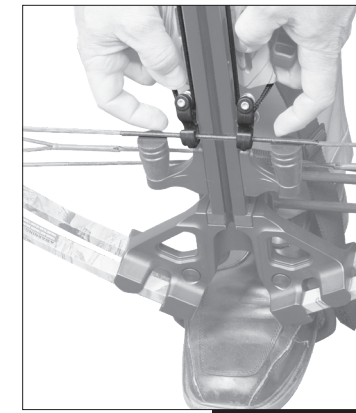

FIGURE 16
- 1d Place the cocking stirrup on the ground and place a foot securely inside. (Fig. 16)
- 1f Place the hooks of the cocking rope onto the crossbow string on each side of the flight rail. (Fig. 16)